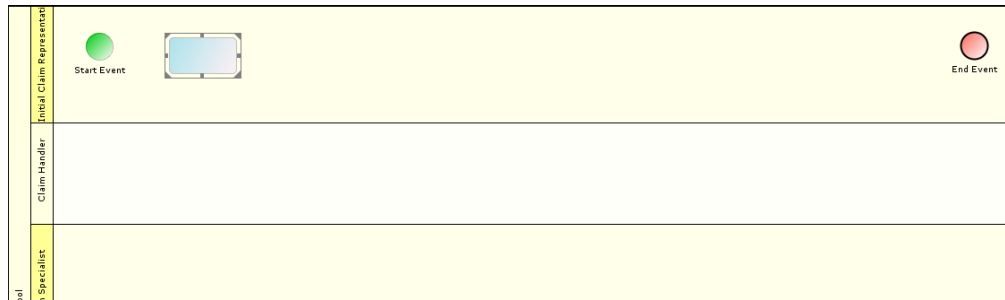

Figure 8: Dragging Workflow Activity into Swim Lane
1. Click **Activity** element () in the Palette and drag it to the first swim lane (*Claim Handler*), on the Graph Canvas. The dragged activity element is displayed in the selected swim lane on the Graph Canvas (see Figure 8).